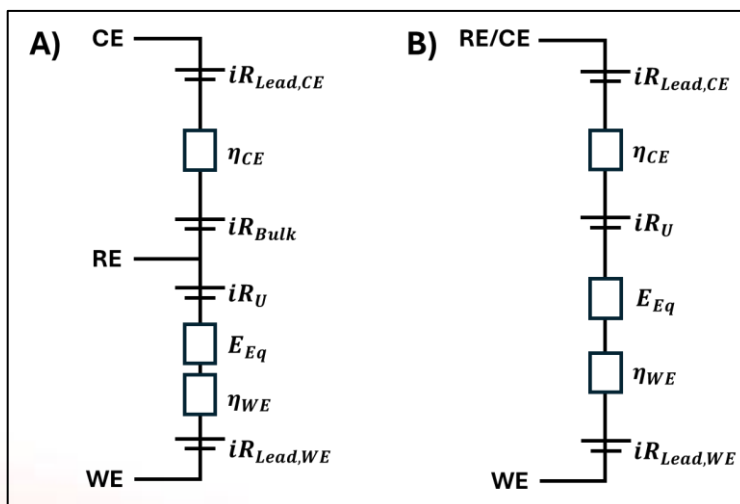

Figure 2. Compliance voltage components for A) three-electrode setup and B) two-electrode setup.
Although, using a typical three-electrode electrochemical cell, potentiostats should offer enough compliance voltage at the CE to overcome all voltage drops in the circuit while maintaining the desired potential between WE and RE. For a two-electrode setup the Reference (RE) and Counter (CE) leads are shorted together, so the potentiostat no longer distinguishes between the potential of the counter electrode and the reference point. **Figure 2** illustrates the compliance voltage components for A) three -electrode setup and B) two-electrode setup.